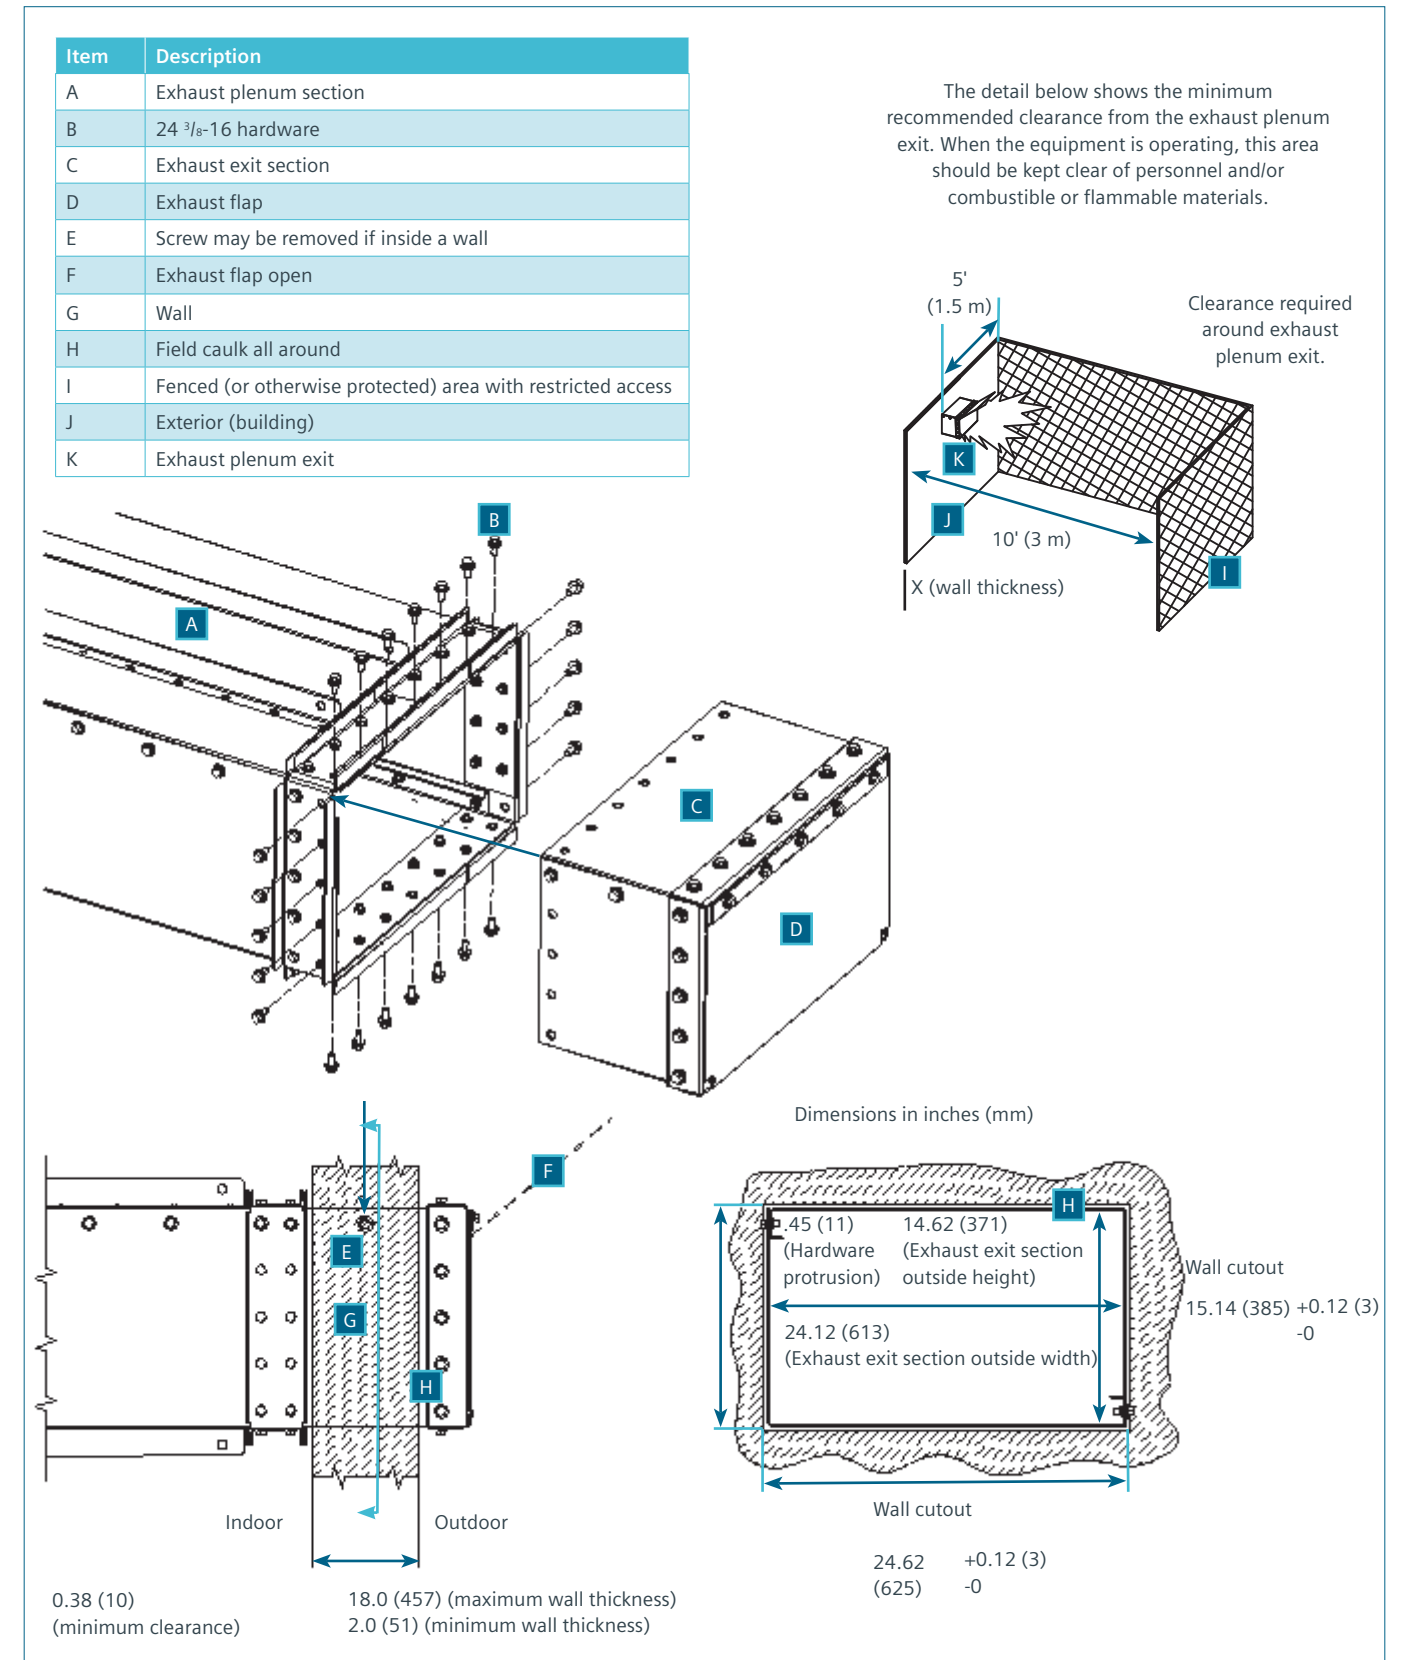

Figure 19: Installation of exhaust plenum exit
Note: The last plenum section before the exhaust exit section passes through the wall must have a minimum clearance of 0.38" (10 mm) to the inner surface of the wall. Refer to Figure 19 on page 37.
6. Apply weather sealant (caulk) around the perimeter of the plenum exit section as shown in Figure 19 on page 37 to provide a weather tight seal.
The exhaust plenum run is not self-supporting and must have no more than one unsupported joint between supports. There should only be one plenum joint between a support and the PRC interface and there should only be one plenum joint between a support and the location where the plenum passes through an exterior building wall as shown in Figure 19 on page 37.